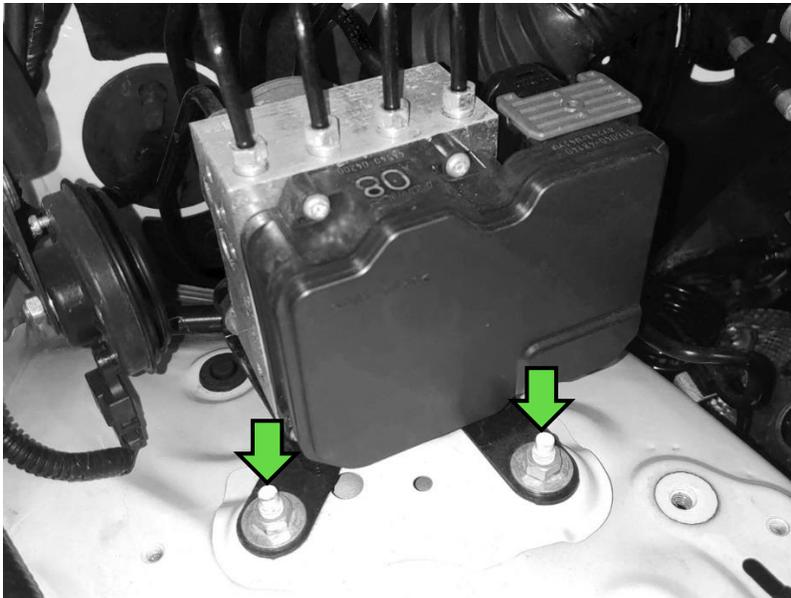

Figure 2
3. If vehicle is passenger-side ABS equipped, remove (2) nuts [**12mm**] shown in *Figure 2*. If no ABS module is present, continue to next step.